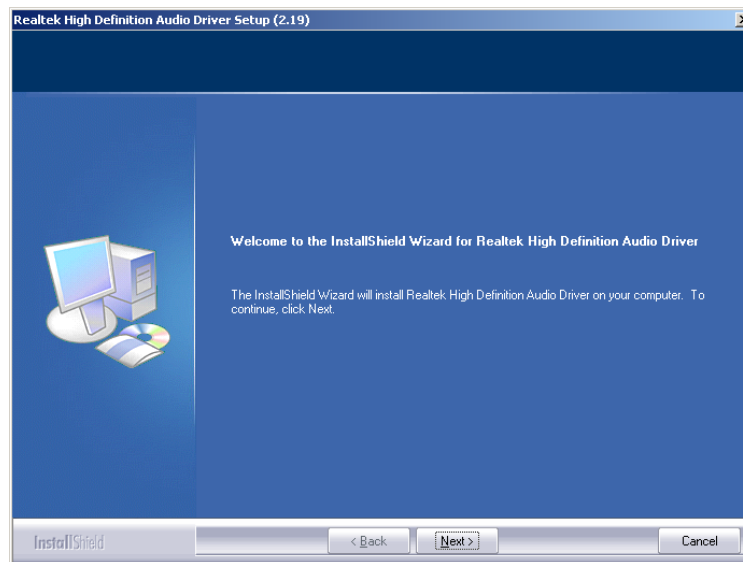

Figure 7-27: InstallShield Wizard Welcome Screen
Step 6: Once initialized, the **InstallShield Wizard** welcome screen appears (**Figure 7-27**).